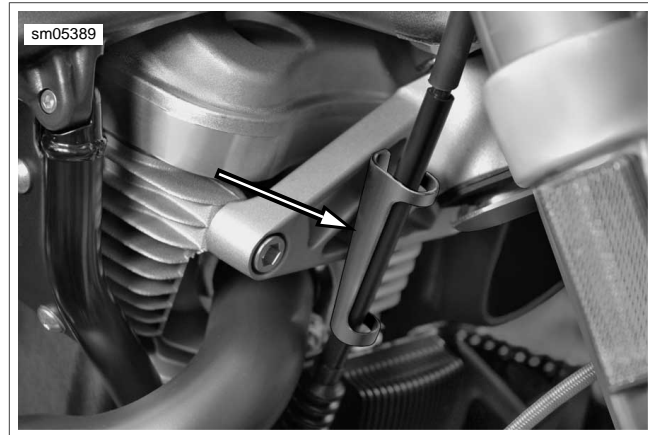

Figure 2-112. Clutch Cable Bracket
2. See Figure 2-112. Remove clutch cable bracket.
4. Tighten front isolator bolt (6) to 49-51 ft-lbs (66-69 Nm).
5. See Figure 2-112. Install clutch cable bracket. Tighten fastener to 84-92 **in-lbs** (9.5-10.4 Nm).